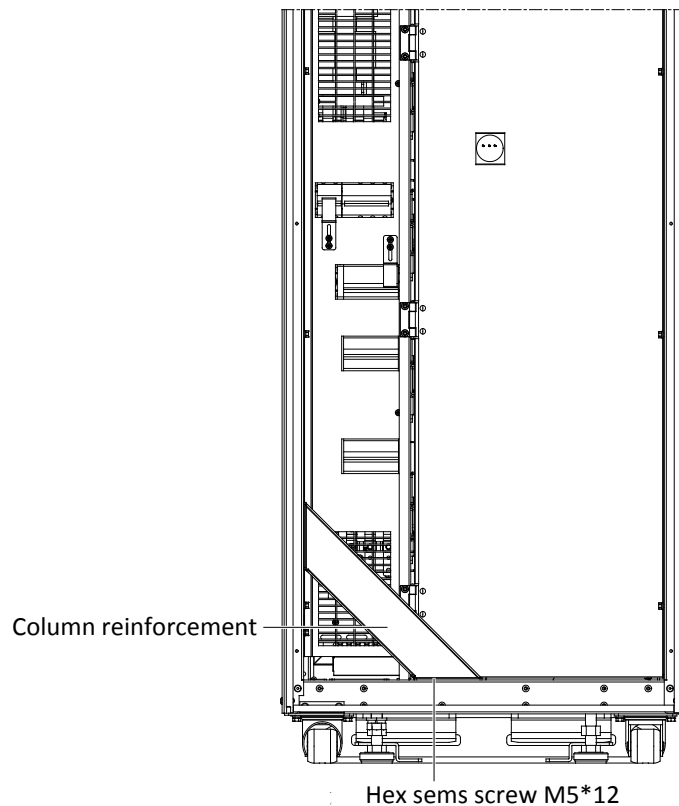

Figure 8-11 Installing column reinforcement (front view)
9. Close the battery compartment door and then reinstall the switch cover plate, and then use hex sems screw M5*12 (4 pcs) to fasten the column reinforcement on lower left corner of the cabinet, see Figure 8-11.